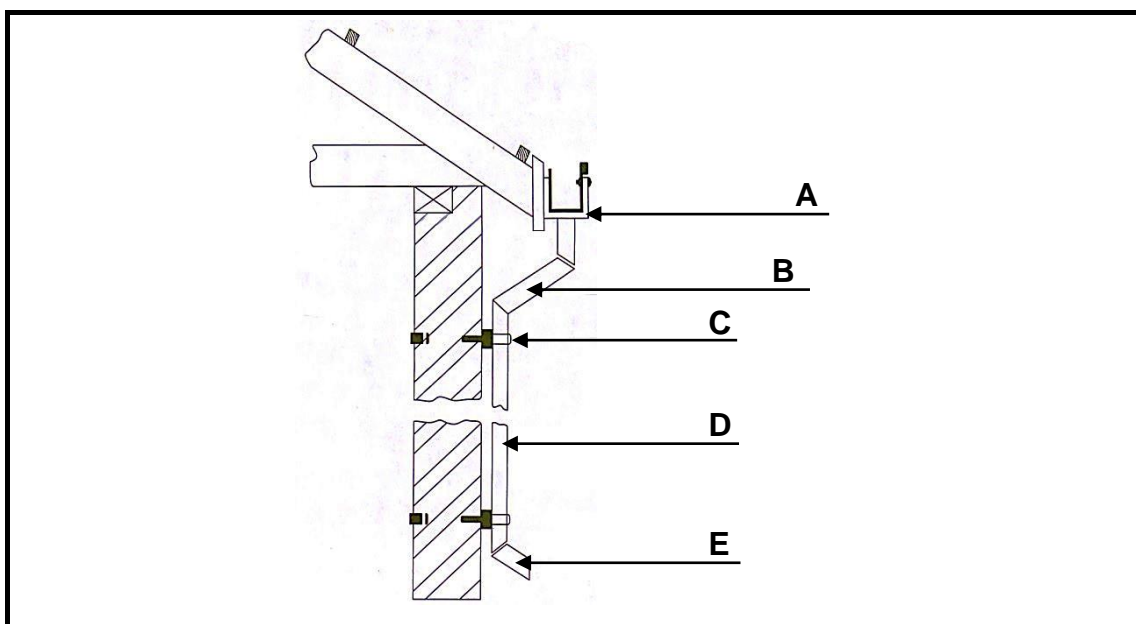

FIGURE 6.4
6.4 Answer the following questions with regard to the gutter system in FIGURE 6.4.